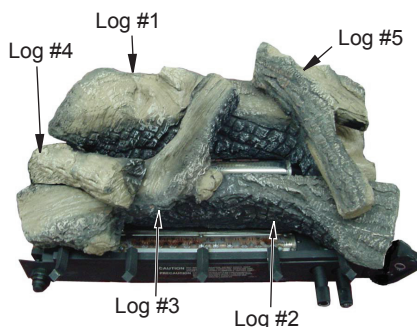

Figure 28 - Placement of Logs
- Add embers to front ember bed burner. Gently remove embers from the bag using gloves or tweezers. **(This material is a skin irritant. Gloves or tweezers are recommended to prevent skin irritation.)** Separate pieces of ember material, pull apart and place on surface of ember bed burner as shown in Figure 28, page 19. **Do NOT overlap ember material. Only edges will glow. Do NOT place ember material in area of pilot or rear burner.**